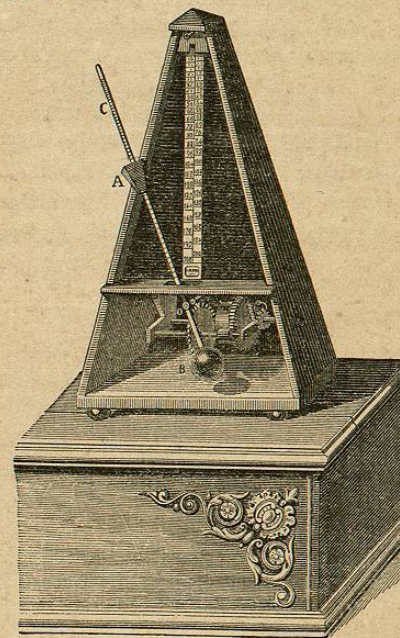

Fig. 39.
56. The METRONOME is a sort of pendulum employed by musicians and others to mark equal intervals of time. It is shown in Fig. 39. It consists of a pen-